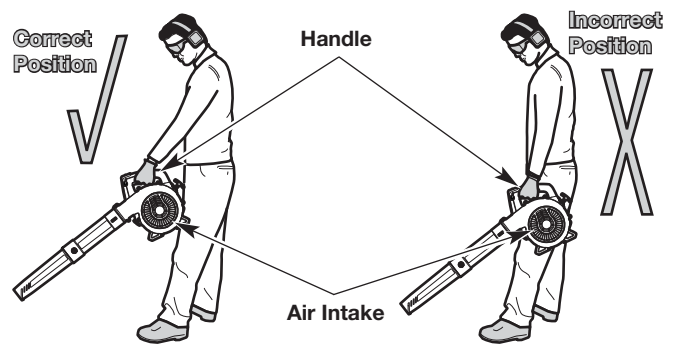

Fig. 8
- Stand in the operating position (Fig. 8). Stand up straight. Do not bend over.
- Hold the unit in front of, and away from, your body (Fig. 8).
WARNING: To prevent serious personal injury or damage to the unit, **DO NOT** hold the unit at your side (Fig. 8). The engine may be extremely hot. **DO NOT** block the air intake.